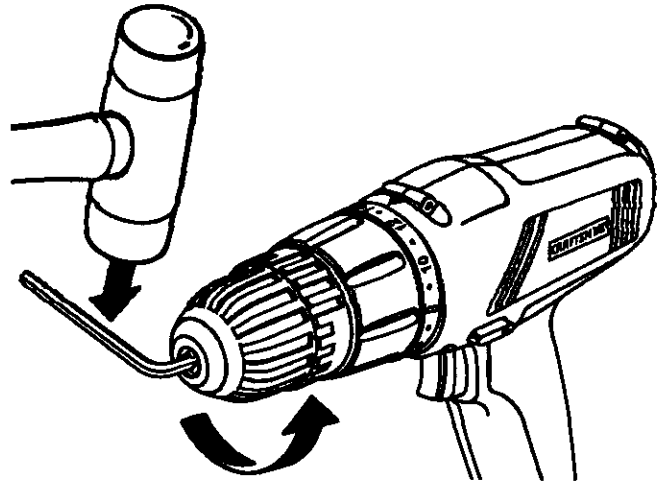

Fig. 14
- Insert hex key in chuck and tighten chuck jaws securely. Tap sharply with a mallet in a counterclockwise direction. This will loosen chuck on the spindle. It can now be unscrewed by hand. See Figure 14.